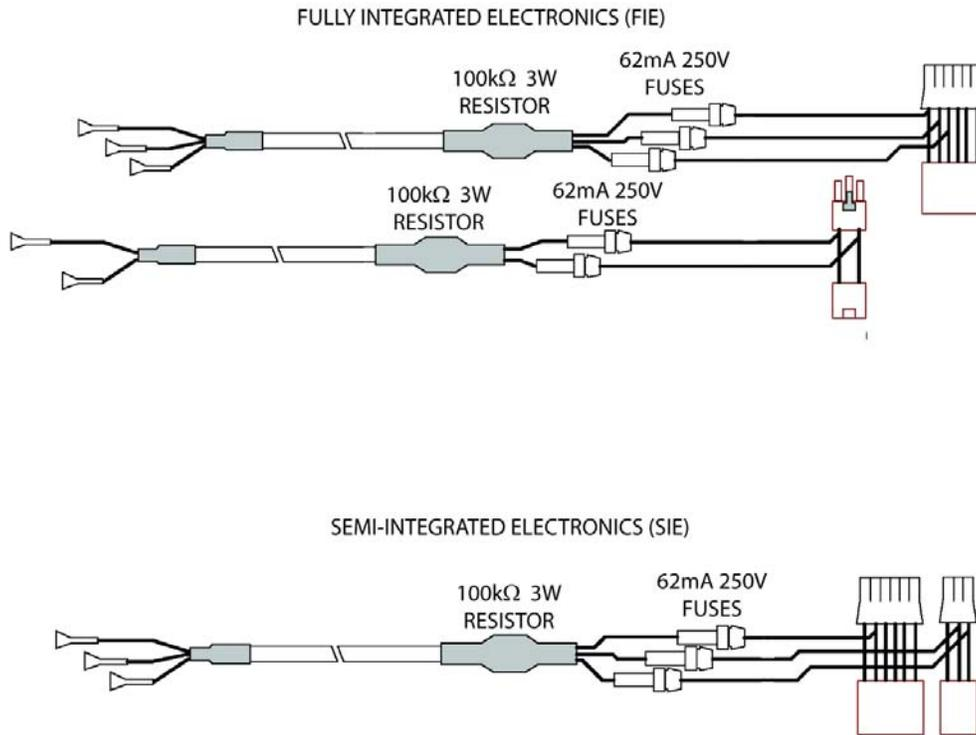

Figure 1 DC Bus Test Harness
5. Confirm integrity of the fuses and resistors in the DC Bus Test Harness by using a multimeter set to resistance. Check each cable individually (see Figure 1). Resistance should be approximately 100kΩ.